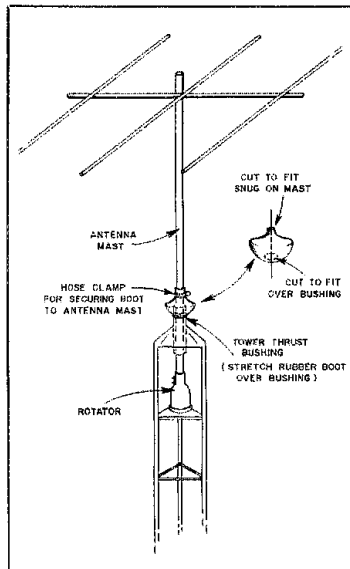

Fig. 3 — WB2PXL uses a rubber toilet-tank ball to form a protective boot for the thrust bushing on his tower.
□ For several years, I have been using a rubber boot to keep the thrust bushing on my tower clean and dry. The boot was fashioned from a rubber toilet-tank ball. [This is the part that fits in the drain hole at the bottom of the tank. — Ed.] Cut the top of the ball to fit snugly around the mast, and cut the bottom so it will stretch fit over the thrust bushing. Slide the boot down the mast until the bottom can be stretched over the bushing. A stainless-steel hose clamp placed over the boot just above the thrust bushing holds it in place (Fig. 3). Be sure to pack the bushing with grease before installing the protective cover. — *Thomas Kruszon, WB2PXL, Riverhead, New York*